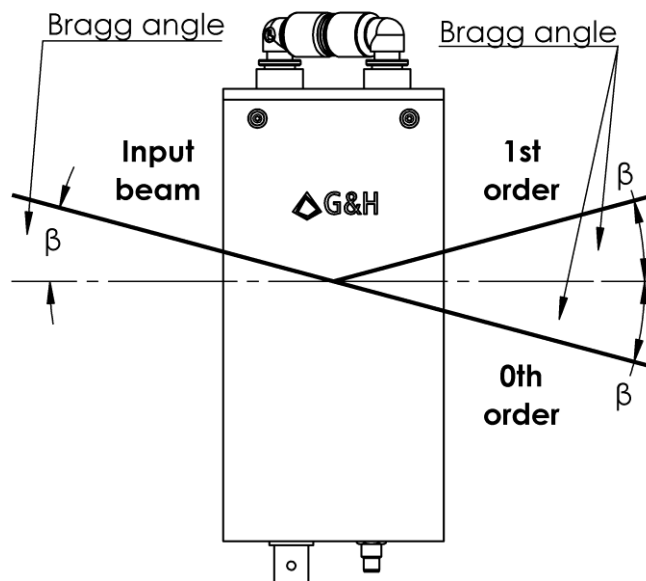

Figure 5 Schematic view on the light beam propagation and diffraction in the modulator.
6. With an active beam slowly rotate the AOM. Direction of the rotation has to be in line with Figure 5 - (Approximation of angle from normal is 2.5°)